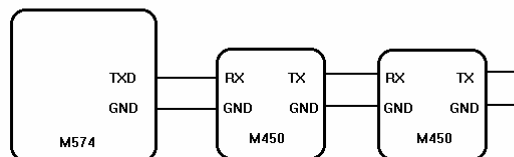

Figure 58 Cascading the Model 450 or 550 (unique address setup) with a 574.
The next cascaded 450 should be connected from the previous 450 or 550’s (TX) connection to its (RX) connection. The ground line should be connected between the two units. Refer to figure 58 for cascading connections. Note that the master device in figure 58 is a 574. It could very well be another GSE indicator such as a Model 550 or 570 with an operating macro program. The master device could also be a computer with an operation program.